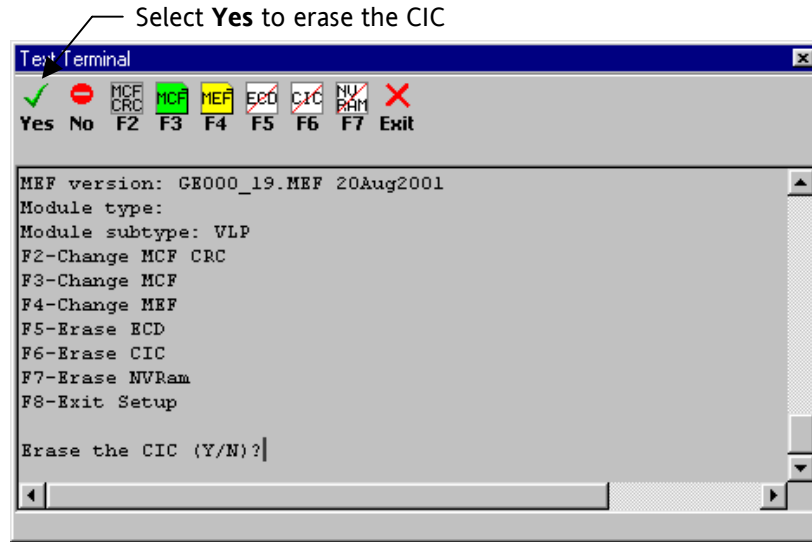

Figure 3-35
4. The prompt “Erase the CIC (Y or N)?” is displayed (figure 3-35). Select the **Yes** button.